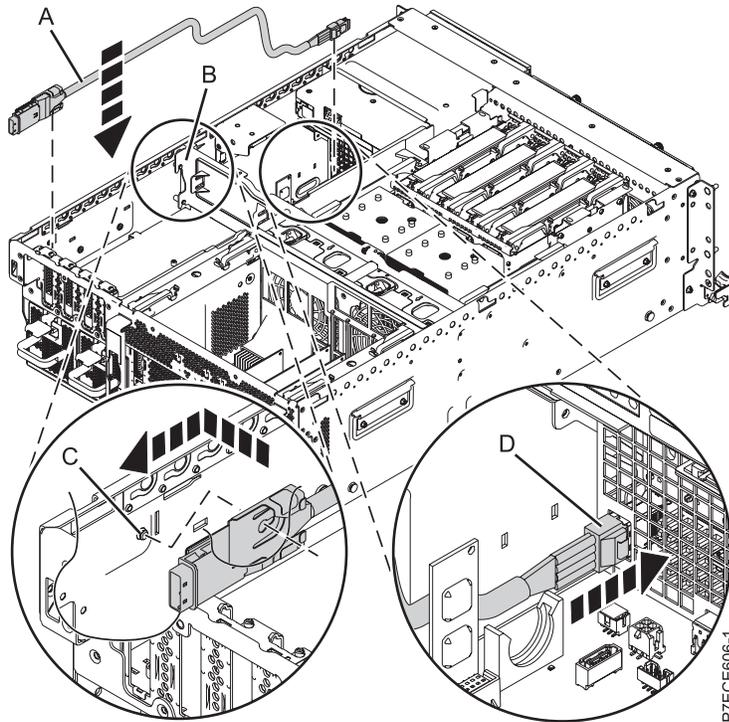

Figure 39. Replacing the SAS cable
3. Connect the SAS shroud of the SAS cable (**A**) to the external SAS connection port on the system backplane, at the rear of the system, until it snaps in place, as shown in Figure 39 on page 65.
4. Lay the cable beside the side wall, and slide the cable through the centre brace (B), toward the SAS connection port on the disk drive backplane.
5. Push the SAS shroud (D) into the SAS connection port on the disk drive backplane until it snaps in place.